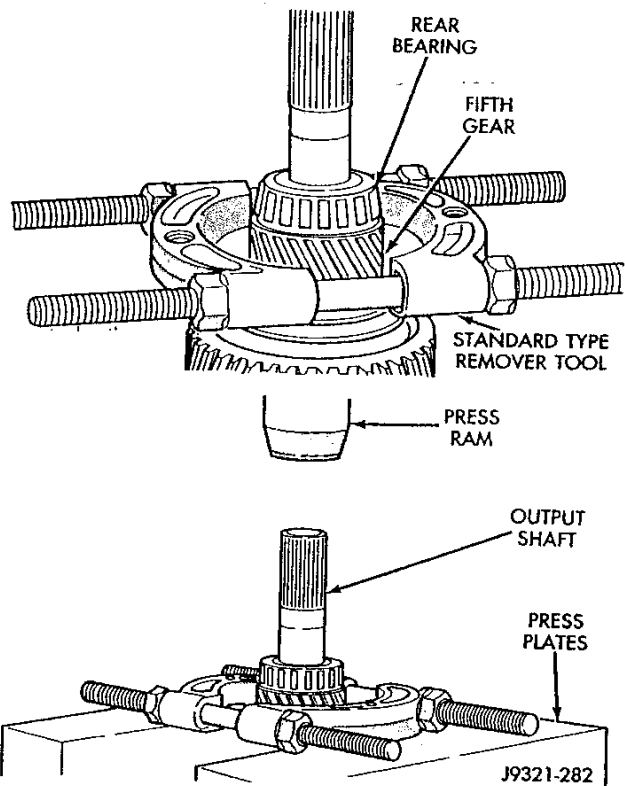

Fig. 18 Removing Fifth Gear And Rear Bearing
(1) Press fifth gear and rear bearing off output shaft. Use standard bearing splitter type remover tool and shop press to remove gear and bearing (Fig. 18).